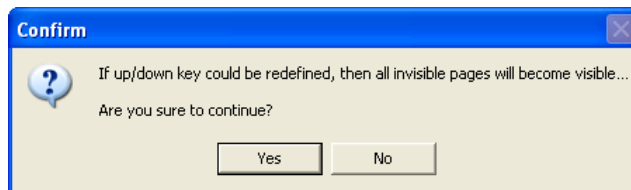

Figure 5-11 **Confirm** window
**Hide Page Setting** is used to hide the page which is edited. The page which is hidden will not be displayed on the screen of the TP series text panel used if the Up key or the Down key on the TP series text panel is pressed. After users click **Hide Page Setting** on the **Local Page Setting** menu, or right-click a page and then click **Hide Page Setting** on the context menu which appears, **Hide Page Setting** on the **Local Page Setting** menu will be checked. If the users click **Hide Page Setting** on the **Local Page Setting** menu again, the page which is edited will not be hidden. A page which is hidden can be displayed on the screen of a text panel by means of **Page Jump Condition Setting** or a **Page Jump** button. If the users select the **Auto-Re-Define Up/Down Key** checkbox in the **Basic Configuration** window, the **Confirm** window shown in Figure 5-11 will appear. After the